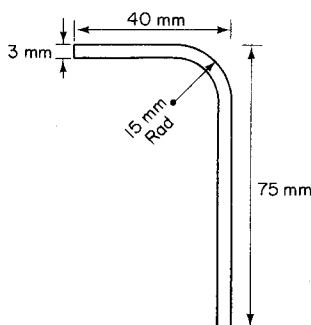

Fig. 1.38
**Example.** Find the width of strip needed to make the angle section shown in Fig. 1.38.